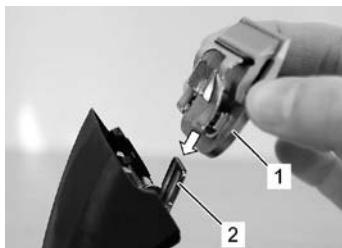

Fig. 14
6. Fold the required clipper head on the blade hinge and fold it onto the clipper when switched on by applying light pressure (Fig. 14 to Fig. 16).